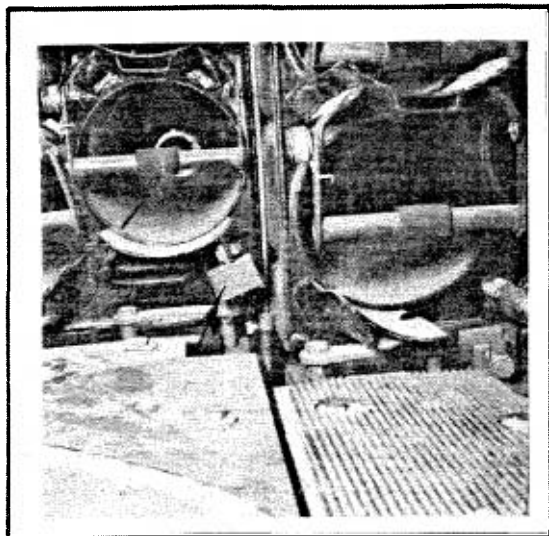
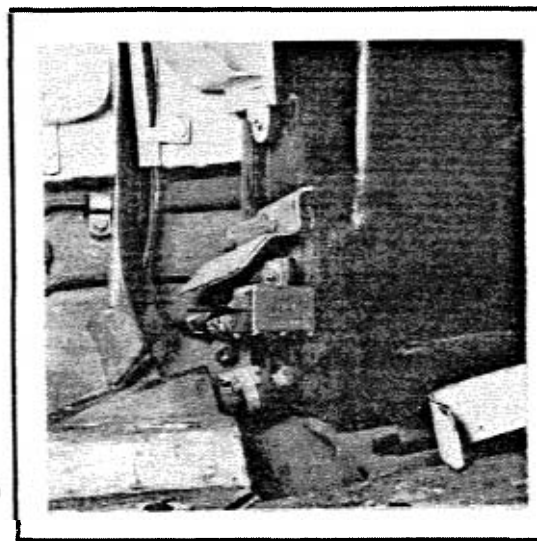

FIG. 3-68. HEAT SENSOR BY FORWARD HULL AMMO RACK
FIG. 3-69. HEAT SENSOR BY FUEL CELL
e. Heat Sensor. By the base of the front 16 round ammo rack (Fig. 3-68), and by the fuel cell near the rear 20-round rack (Fig. 3-69), are heat sensors that will activate the fire extinguisher system automatically. If the system does not activate automatically, the vehicle commander can activate the system by pushing a button located below and to the left of the TC's seat (Fig. 3-39).